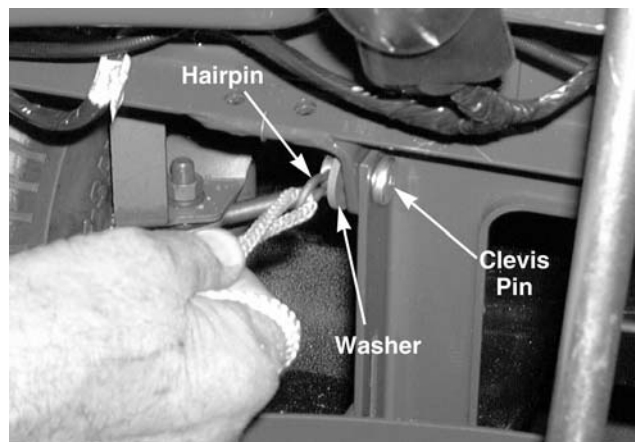

Figure 8-37.
5. Remove both of the clevis pins, flat washers, and hairpin clips that secure the deck stabilizer bracket to the front channel assembly. See Figure 8-37.